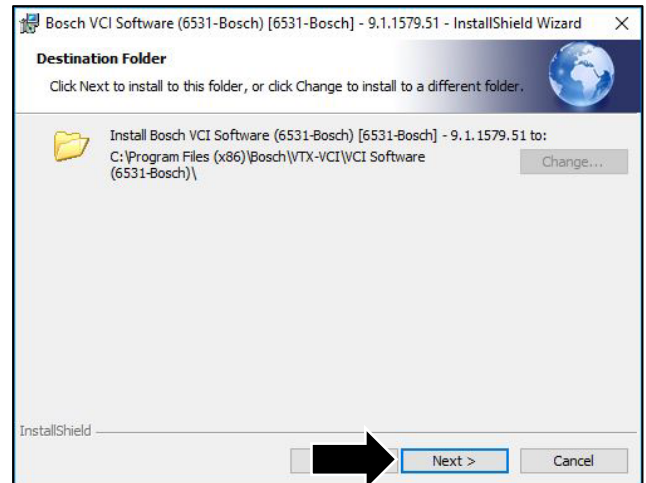

Figure 4
5. Click "Next" (refer to Figure 4).